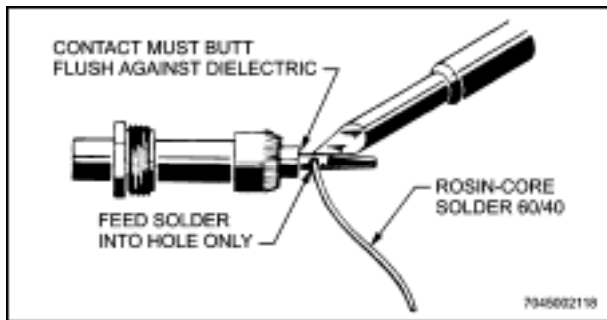

Figure 12-12 Soldering Contact to Coaxial Cable
11. See Section 2, Chapter 7 for general soldering procedures and precautions. For soldering cable to RF connectors, use only 60/40 tin-lead solder with a core of rosin flux. Heat the parts to be joined, and apply the solder at the junction of the soldering iron tip and the work as shown in Figure 12-12. Do not apply heat